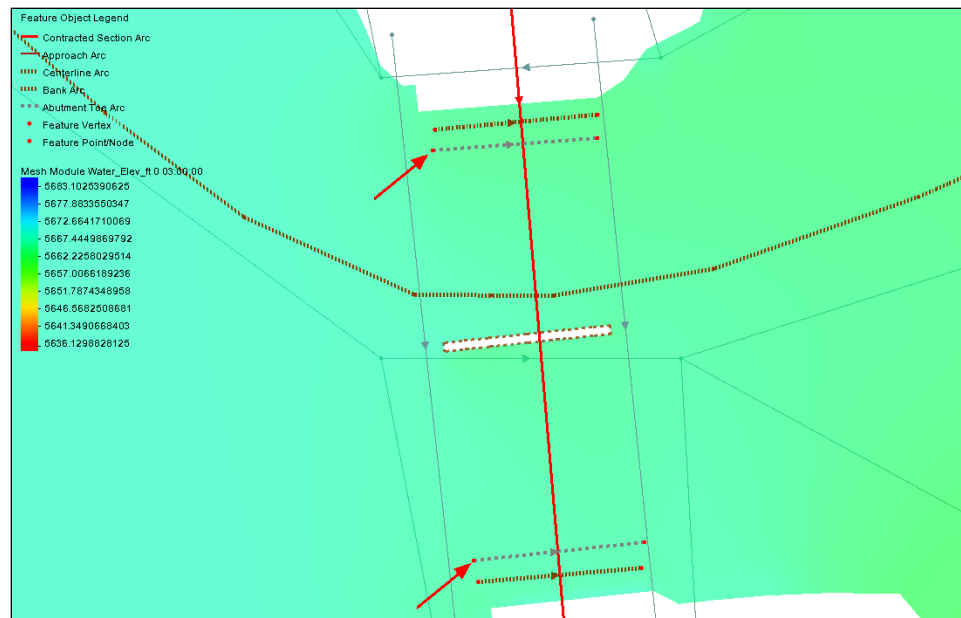

Figure 7 Two abutment toe arcs (indicated by arrows)
1. **Zoom**  in to the bridge area (Figure 7).
The project should appear similar to Figure 7. Two abutment toe arcs should be crossing the contracted section arc near the bank arcs at the bridge.